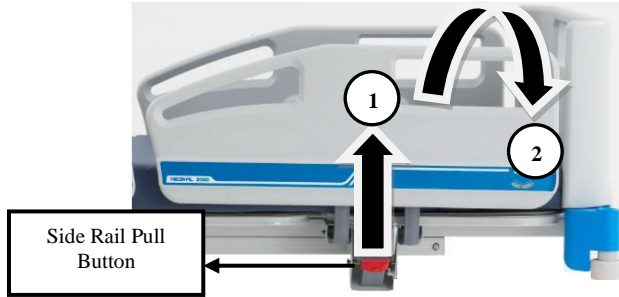

Figure 6a. Hiding the Railings
1. Push the side rail pull button **Figure 6a**. Pull upwards as indicated by **arrow 1** in **Figure 6a**.
2. Side rails **Figure 6a**. Slide it down to the lowest position as indicated by the **arrow number 2** in **Figure 6a**.